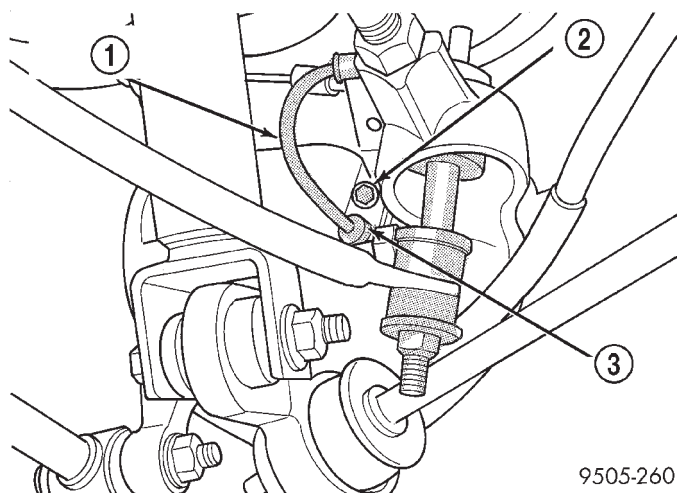

Fig. 49 Rear Speed Sensor Head Attachment To Brake Support Plate
- (6) Remove the rear speed sensor from the rear brake support plate (Fig. 49).
(1) Install speed sensor head into brake support plate (Fig. 49).
(2) Install wheel speed sensor attaching bolt (Fig. 49). Tighten the speed sensor head attaching bolt to 8 N·m (75 in. lbs.).